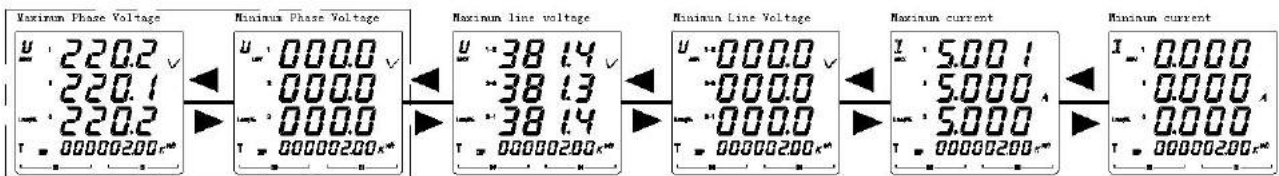

Figure 18
5.2.8 View the extreme value parameters of the AMC72L/96L as shown in Figure 18.